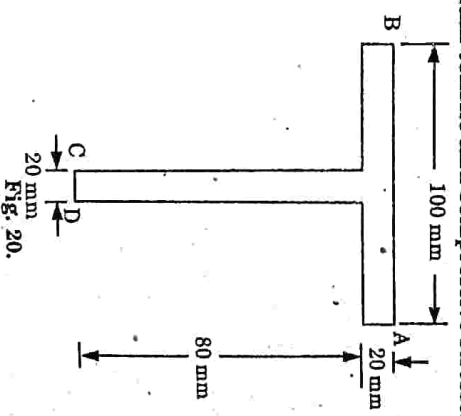

Fig. 20.
- b. A cast iron beam of T-section as shown in Fig. 20. The beam is simply supported on a span of 8 m, the beam carries a UDL of 1.5 kN/m length on the entire span. Determine the maximum tensile and compressive stresses.